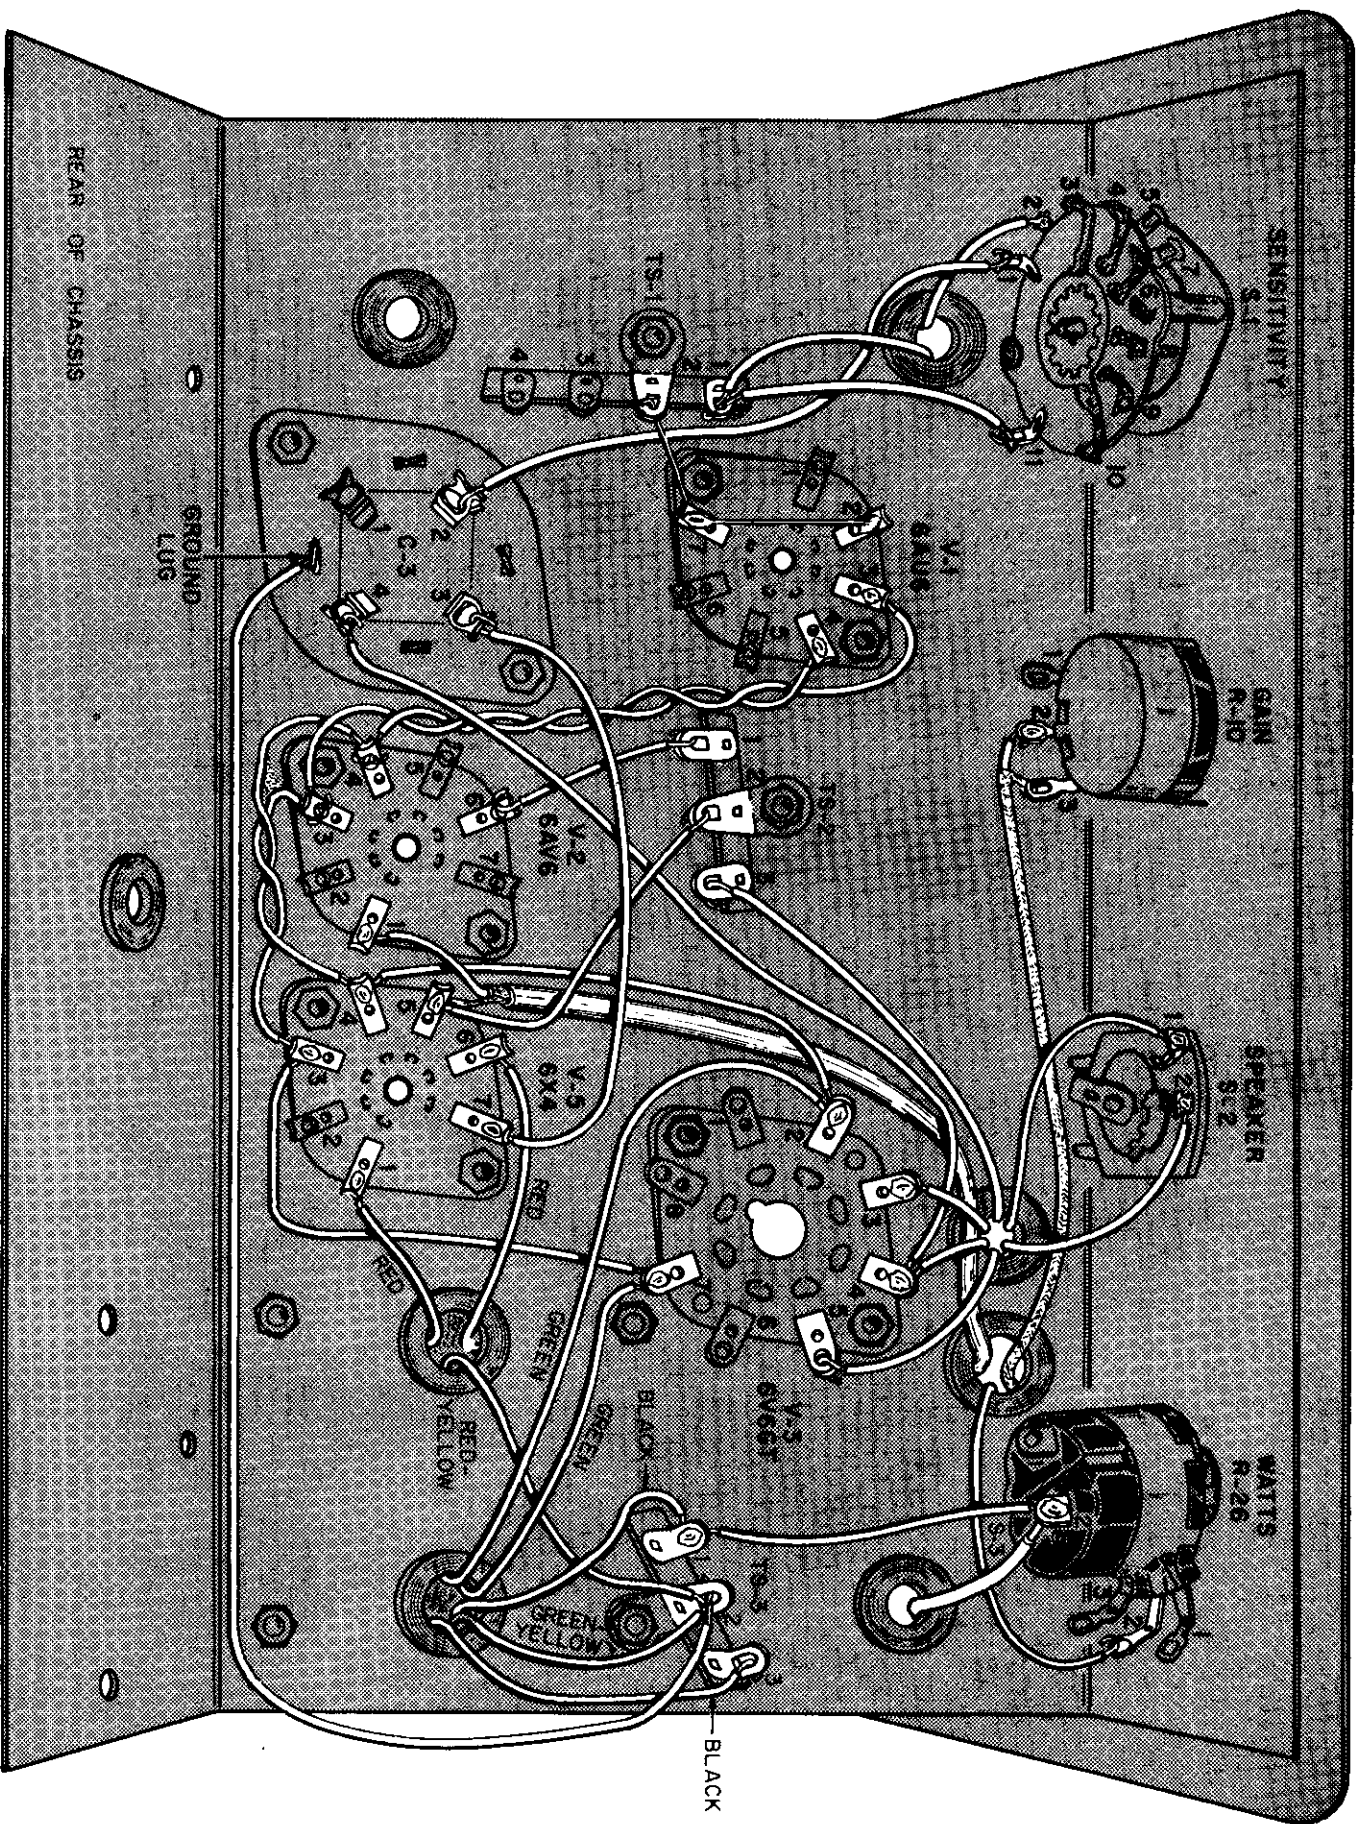

FIGURE 8. FIRST WIRING VIEW INSIDE THE CHASSIS
**SEE FIGURE 8.**
- (✓) Solder the inner conductor to pin 1 of V-2. Connect but do not solder the shield lead to pin 5 of V-5. Position the lead as shown in Figure 8. Push the other end through the  $\frac{1}{2}$  inch grommet located to the left of R-26, the Watts Control. This end will be connected later.
- (✓) Solder the inner conductor to terminal 2 of R-10, the Gain Control. Connect but do not solder the shield lead to terminal 3 of R-10. Position the lead as shown in Figure 8. Push the other end through the same grommet that the previous shielded lead went through. This end will be connected later.